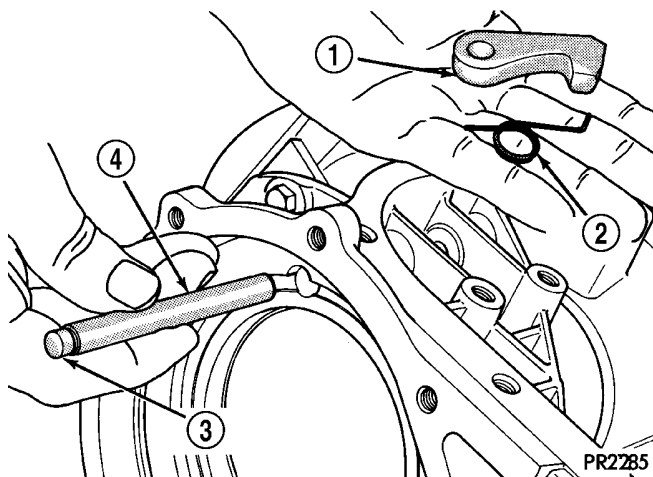

Fig. 25 Parking Pawl, Return Spring, and Pivot Shaft
(25) Remove park pawl, spring, and pivot shaft (Fig. 25).